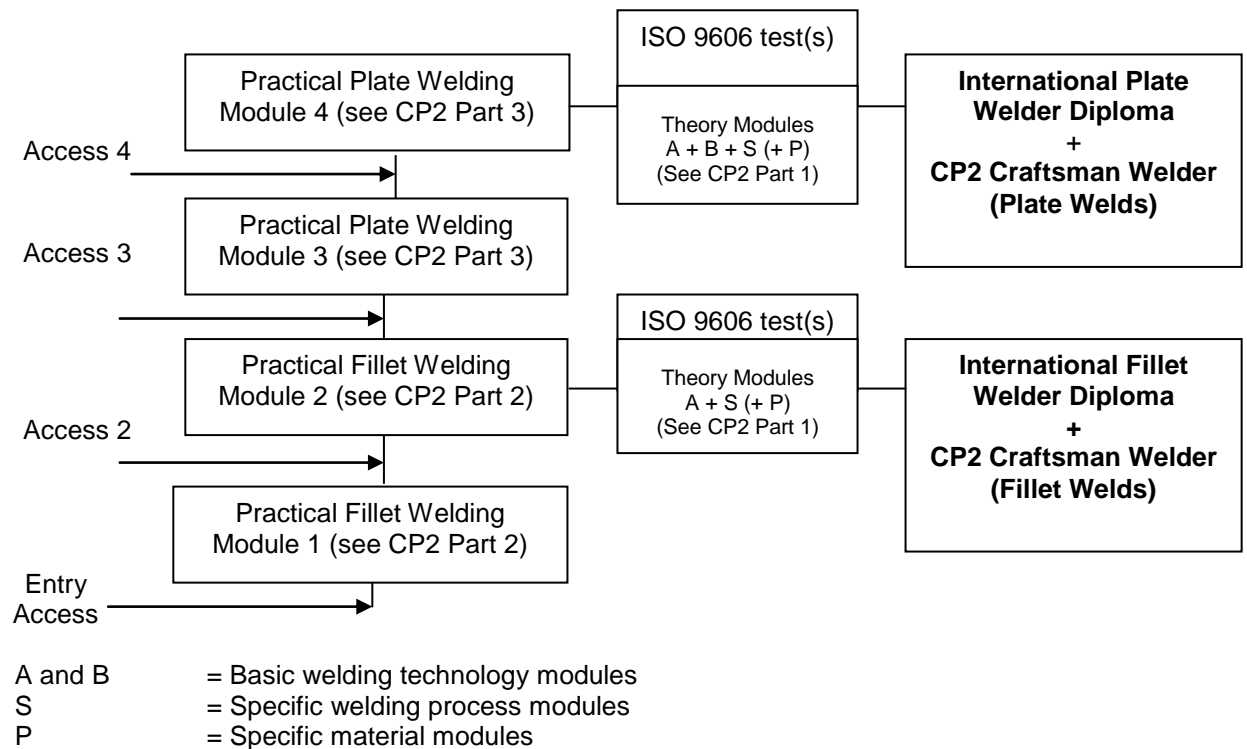

Figure 1 The overall structure of the training and examination under CP2.
The route to achieving a qualification under CP2, is shown in Figure 1. It can be seen from Figure 1 that there is a direct link between CP2 and the International Welder qualification under the International Institute of Welding (IIW) scheme¹. Therefore, the outcome from the CP2 programme is both the NWTs and the IIW qualification. The latter ensures that the welder's knowledge and skills is recognised throughout the world.
This document, CP2 Part 3, covers only the Practical Plate Welding Modules shown in Figure 1.
- To perform the practical examinations that are defined in this Guideline for the level of the IW Diploma that the candidate is applying for, including the lower levels examinations. See Figure 1.